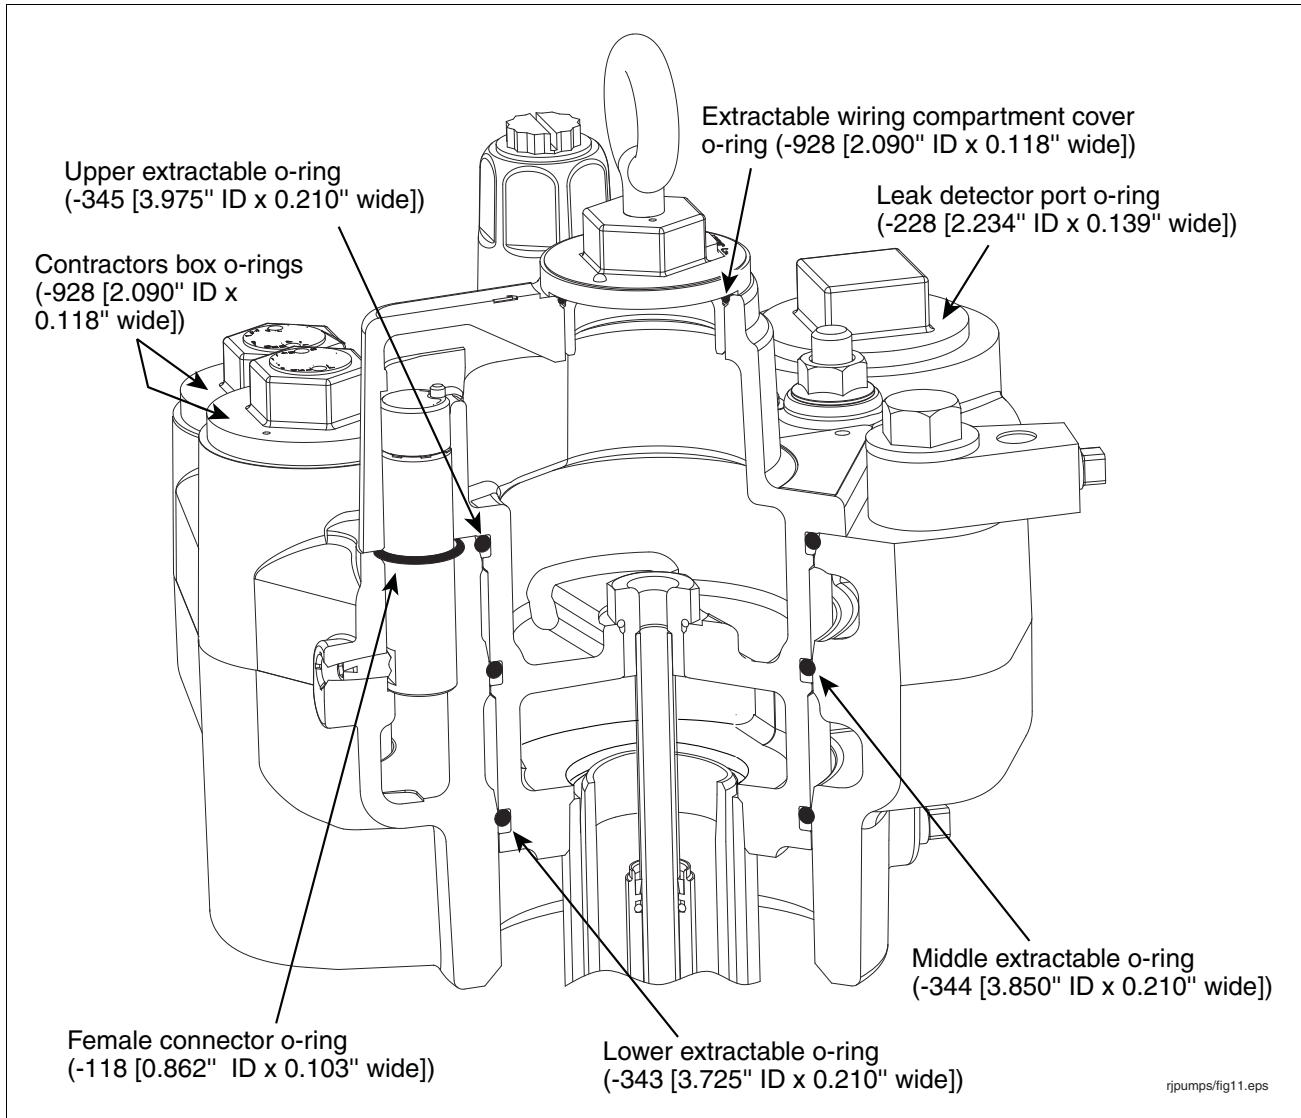

Figure 32. Locating packer and manifold o-rings
9. Get the three extractable o-ring seals ( 3.975" ID x 0.210" wide [upper], 3.850" ID x 0.210" wide [middle], and 3.725" x 0.210" wide [lower]) from the hardware/seal kit. The three o-rings are very close in size so take extra care to distinguish each one before replacing them in the extractable. Lubricate each o-ring with petroleum jelly and then install them in their assigned grooves in the extractable (see Figure 32).
10. Remove the manifold's female connector's o-ring (see Figure 32). Get a 0.862" ID x 0.103" wide o-ring from the kit and lubricate it with petroleum jelly. Slide the o-ring over the female connector and push it down into its groove.